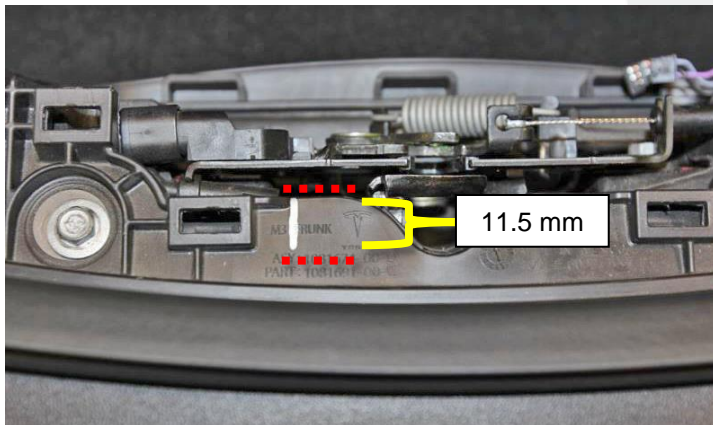
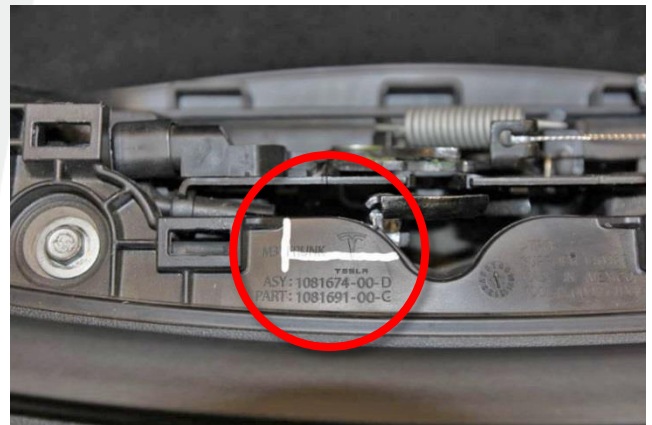

Figure 3
Figure 4
3. Draw a line on the underhood storage unit approximately 11.5 mm from the edge of the latch cutout (Figure 3), and then draw a line perpendicular right next to the curved feature (Figure 4)